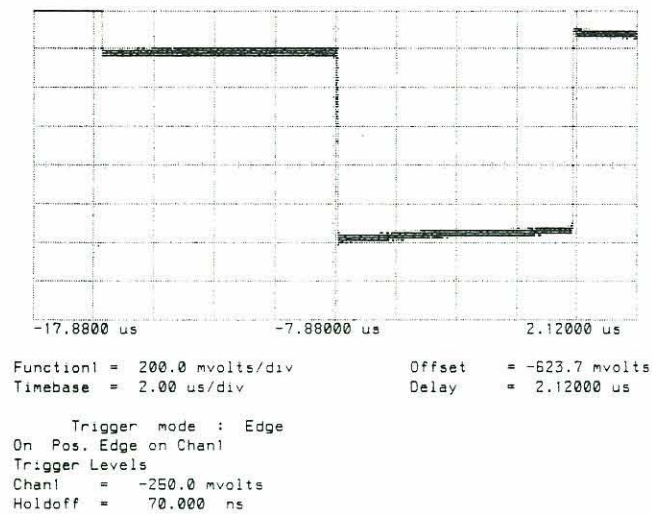

Figure 8-39 Isolated Negative Pulse
6. Adjust the Oscilloscope to obtain an isolated negative pulse as shown in Figure 8-39 and repeat step 5.